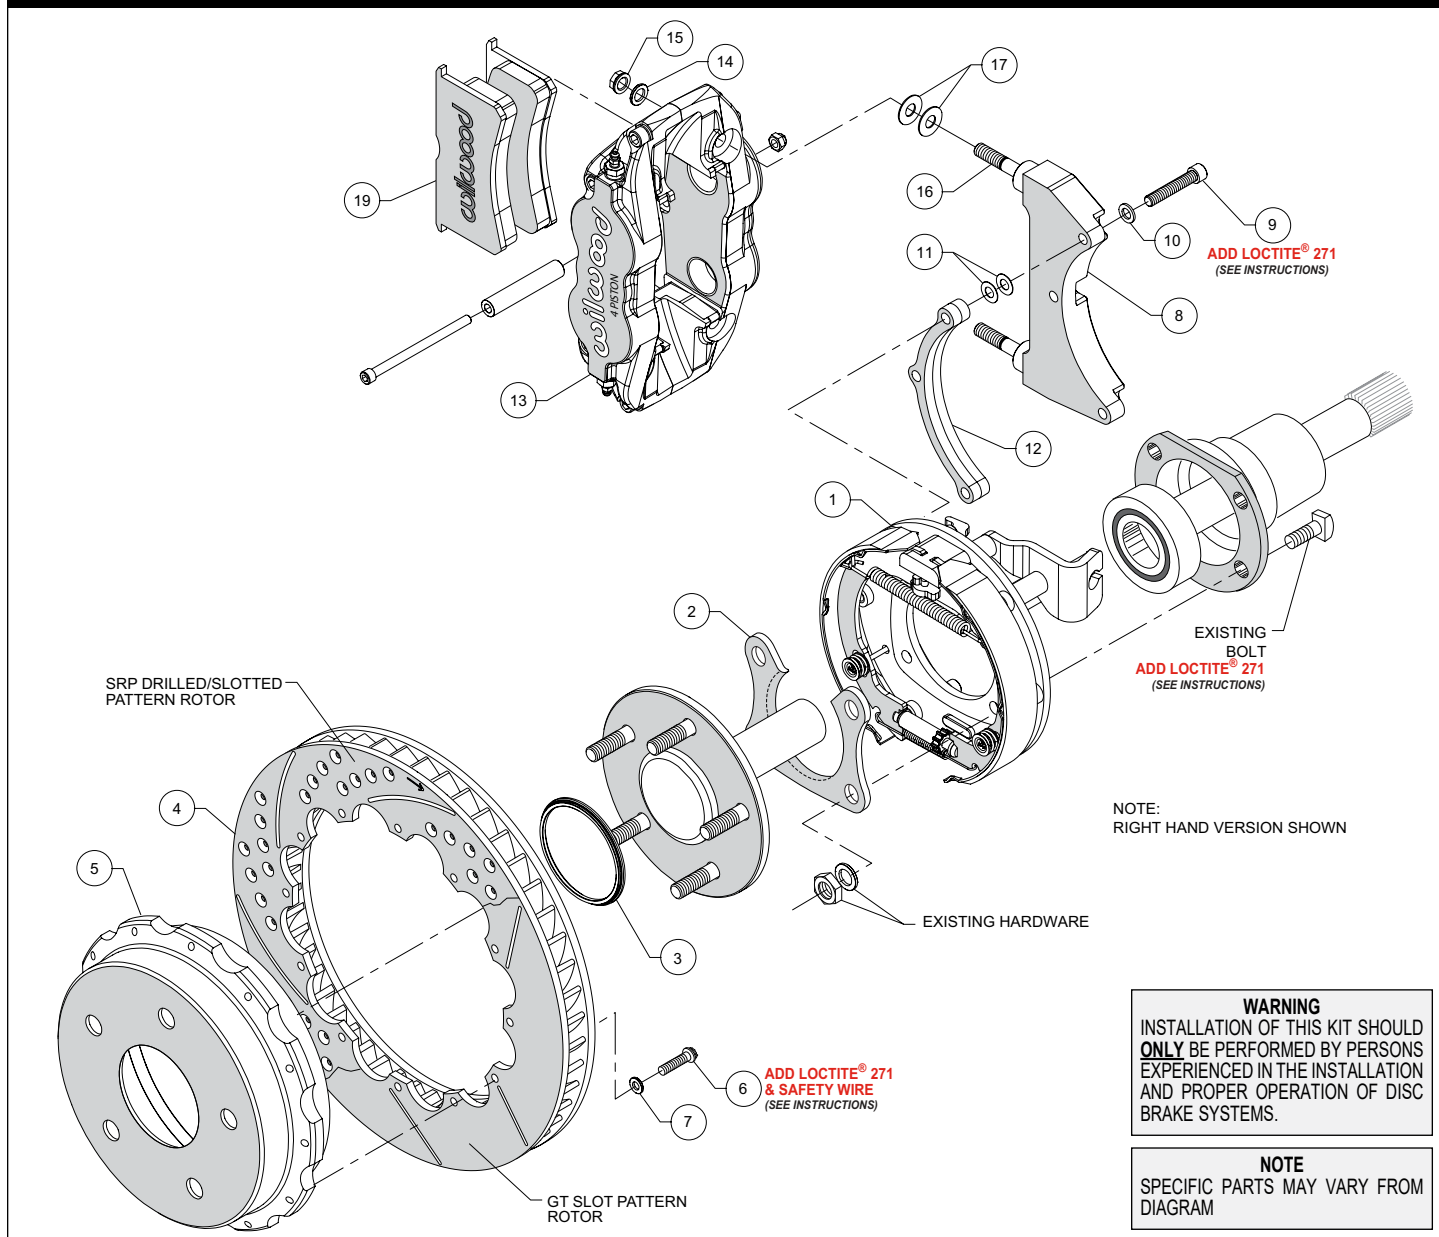
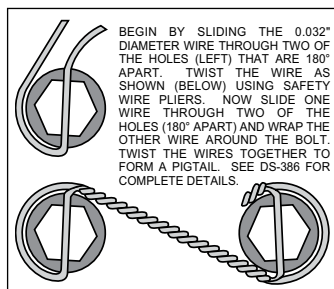

Figure 1. Typical Installation Configuration
Figure 5. Safety Wire Diagram
Assembly Instructions (numbers in parenthesis refer to the parts list, and Figure 1 on the preceding pages): **CAUTION:** All mounting bolts must fully engage clinch nuts. Be sure to check that all bolts are either flush or protruding through flanged side of clinch nut after shimming.
• Orient the bracket assembly (1) as shown in Figure 1 and Photo 1 and slide it onto the axle. Insert the axle and bracket into the axle housing. Ensure that the bracket assembly backing plate fits flush against the axle housing flange.
• Install the bearing retainer (2) with the opening pointing upward and the lip facing inward (toward the bearing), as shown in Figures 1 and 4, and Photo 2. Secure retainer and bracket assembly to the axle housing flange using the Original Equipment Manufacturer (OEM) bolts, washers, and nuts, Figure 1. Apply red *Loctite*® 271 to the OEM bolt threads and torque to OEM specifications.
•**NOTE:** Please reference the caution statement at the beginning of the assembly instructions. The caliper mounting bracket (8) should initially be installed with clean, dry threads on the mounting bolts. Orient the bracket as shown in Figure 1 and Photo 3, and install using bolts (9) and flat washers (10). Initially place two .015" shim washers (11) on each bolt between the bracket (8) and spacer (12), Figure 1. Temporarily tighten the mounting bolts. **NOTE:** End of bolt should not exceed inside face of insert. The bracket must tighten squarely against the back side of the bracket kit assembly (1). Inspect for interference from casting irregularities, machining ridges, burrs, etc. Later, after the caliper alignment has been checked, the mount bolts will be secured using red *Loctite*®.
•Orient the rotor (4) and the hat (5) as shown in Figure 1 and Photo 4. Attach rotor to hat using bolts (6) and washers (7). Apply red *Loctite*® 271 to the bolt threads and torque to 140 in-lb using a criss-cross pattern. For an added measure of security, the bolts may be safety wired using standard 0.032 inch diameter stainless steel safety wire as shown in Figure 5. Please refer to Wilwood's data sheet DS-386 (available at www.wilwood.com/Pdf/DataSheets/ds386.pdf) for complete safety wire installation instructions.
•Slide the rotor registration adapter (3) onto the axle register on the axle flange with the smaller O.D. facing toward the rotor/hat (4/5), Photo 5. Align the hole pattern in the hat with the stud pattern on the axle flange and slide into place, Figure 1 and Photo 6. **NOTE:** The rotor/hat must fit flush against the axle flange or excessive rotor run out may result. Install three lug nuts (finger tight) to keep the rotor/hat assembly in place while continuing with the installation. **NOTE:** Some OEM and after market axles come with stud sizes larger than 0.50" diameter. Verify stud size and have a qualified machine shop drill the bolt circle of the hat/rotor to the correct stud size, if necessary.
•Initially place two .035" thick shims (17) on each stud as shown in Figure 1 and Photo 7. Mount the caliper (13) onto the bracket (8) using lock nuts (15) and washers (14), Figure 1. Temporarily tighten the lock nuts and view the rotor through the top opening of the caliper. The rotor should be centered in the caliper, Photo 8. If not, adjust by adding or subtracting shims (11) between the bracket (8) and the spacer (12). Always use the same amount of shims on each of the three mounting bolts. Once the caliper alignment is correct, remove the bracket mounting bolts (9) one at a time, apply red *Loctite*® 271 to the threads, and torque to 180 in-lb.